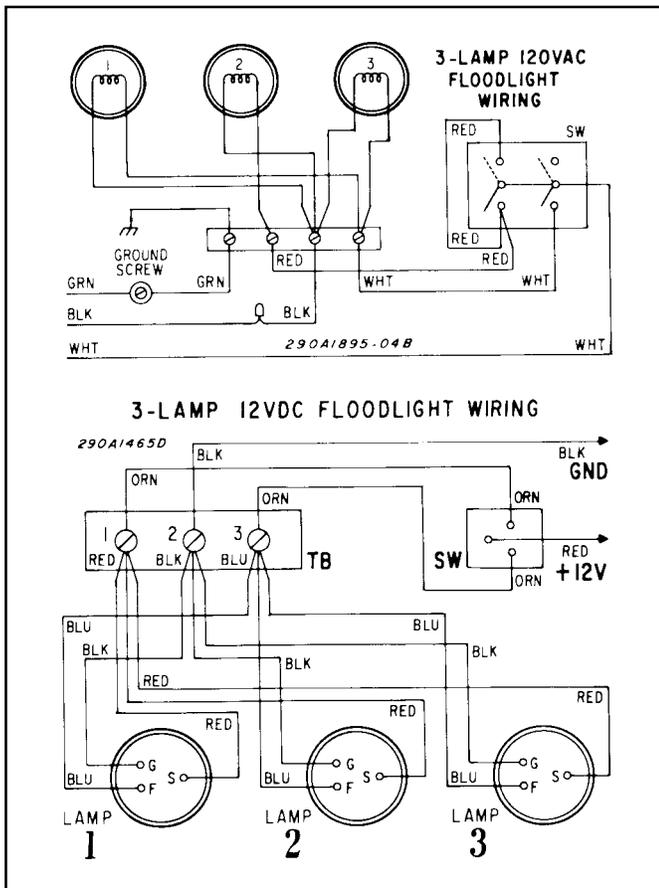

Figure 3. Wiring Diagrams.
3. See figure 3. Connect the power leads to the terminals on the replacement lamp(s).